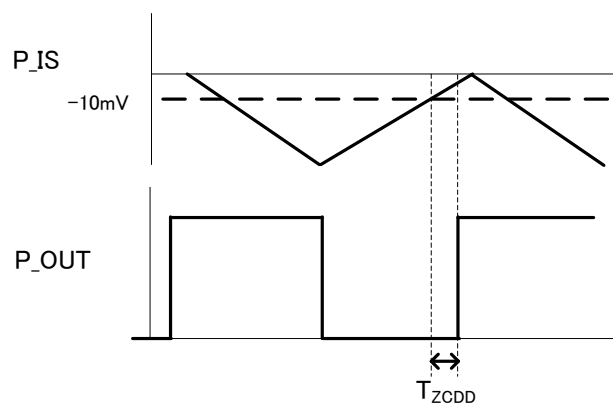

Figure 32. P\_IS Zero Current Detection Delay Time
Zero current detection circuit is used to sense the zero crossing of Inductor current (IL). P\_OUT output is set to be low after zero detection delay because P\_IS voltage becomes more than zero current detection voltage. The over-current detection of an inductor current is set to be  $V_{th} = -0.6V$  (typ) of P\_IS voltage. To remove switching noise, we recommend additional CR filter in P\_IS pin. The operation is shown is Figure 32.